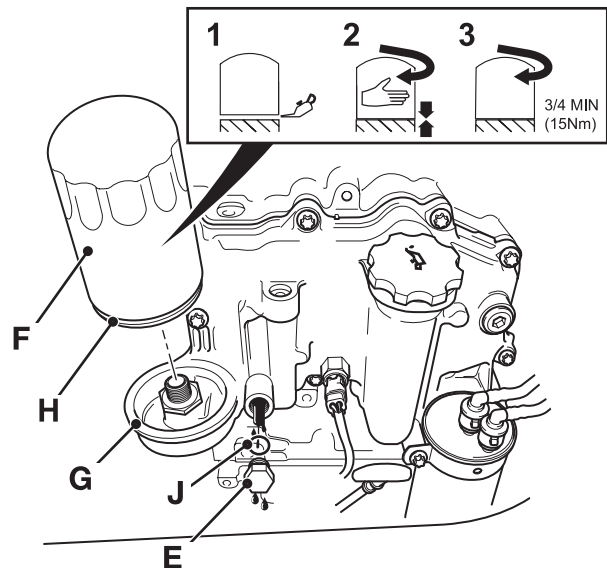

Fig 36.
- 4 Place a container of suitable size under drain plug E to catch the oil. ⇒ Fig 36. \(□ 3-1-58\).